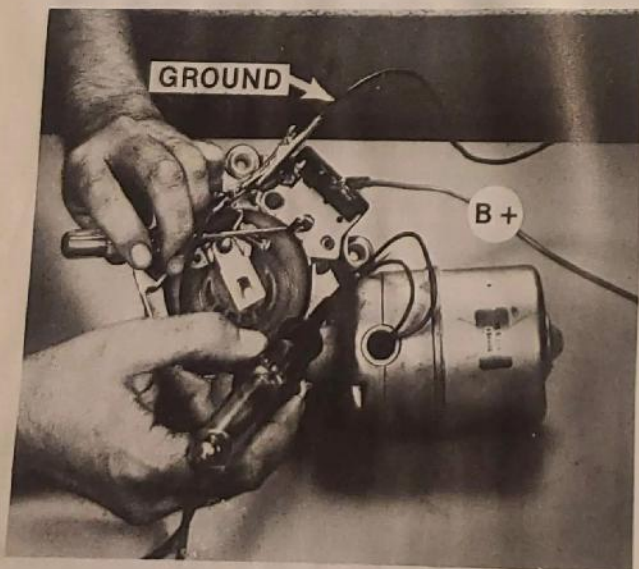

Fig. 49. Gearbox Relay Test
3. To test gearbox relay, connect 12-volt B+ to Terminal 2 and ground housing (fig. 49). If motor is not in park position, depress latch arm with small screwdriver to operate relay switch. Probe black wire with pink stripes using test lamp.